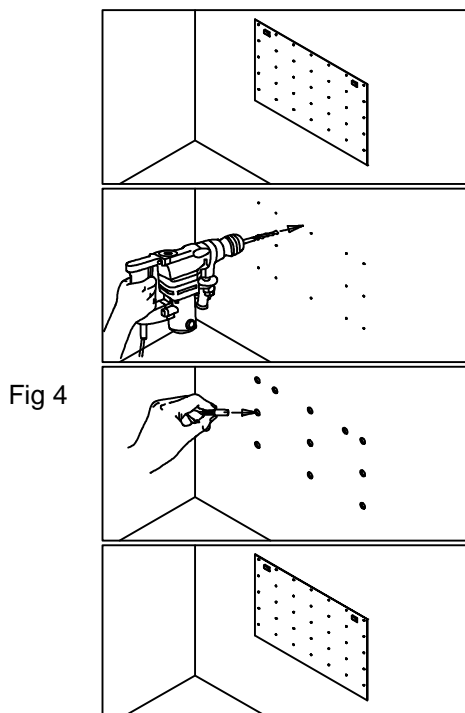
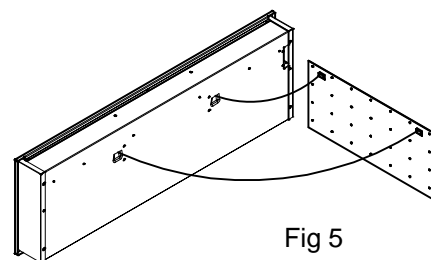

Fig 4
Fig 5
6. Fasten the hanger to the wall (See Figure 4.). Hang the fireplace onto the hanger (See Figure 5.).